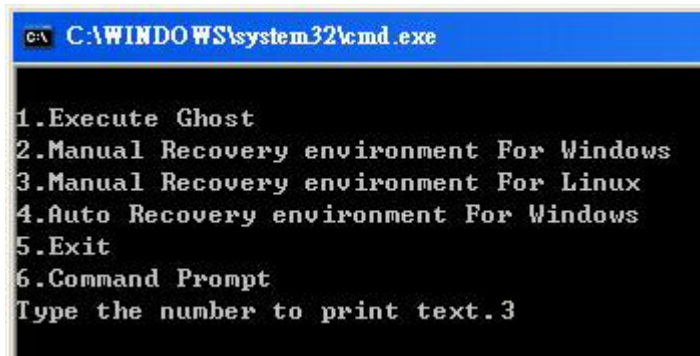

Figure A-30: Manual Recovery Environment for Linux
Step 4: Build-up recovery partition. Press any key to boot from the recovery CD. It will take a while to launch the recovery tool. Please be patient. When the recovery tool setup menu appears, type <3> and press <Enter> (**Figure A-30**). The Symantec Ghost window appears and starts configuring the system to build-up a recovery partition. After completing the system configuration, press any key to reboot the system. Eject the recovery CD.